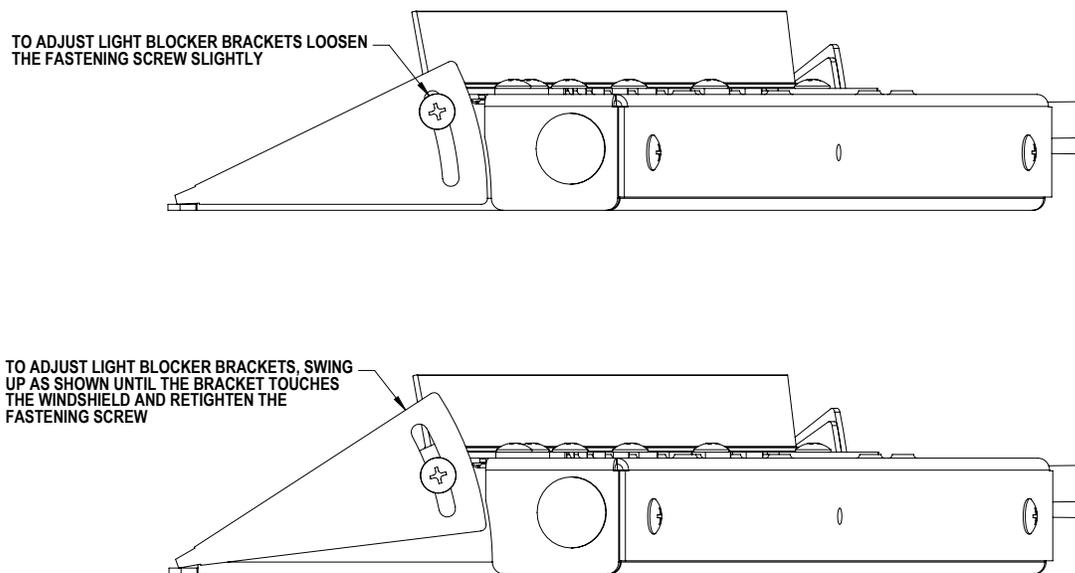

FIGURE 6
Step 12 Once both sides of the Unit are installed, leveled and in the final position, loosen the screws on each of the Inner and Outer Light Blocker Brackets, swing them up against the windshield and retighten the screws to block out any flash back light that might come out the sides of the Unit (see Figure 6 on page 7).